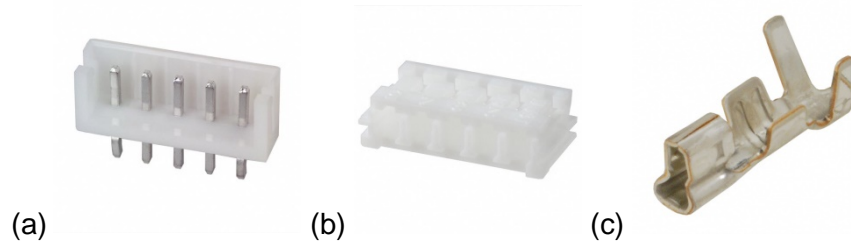

Figure 7: Header connector (a), the correspondent receptacle connector (b), and socket contact (c).
The power supply connector mounted on eMUSIC MiniBoard v2 is the B5B-EH-A(LF)(SN) from JST Sales America Inc., a 4-position header connector with 3.96mm pitch (Figure 7). The correspondent female connector models could be the HER-5 and the TE Connectivity AMP Connectors 647466-2.
Figure 7 shows the layout and Table 4 shows the pin assignment of the power supply connector (P8).